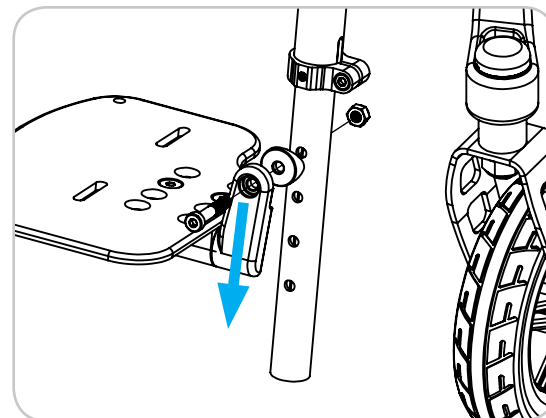

Figure 28
1. Remove bolt and nut using a 4mm hex wrench a 10mm wrench. Reference Figure 28.